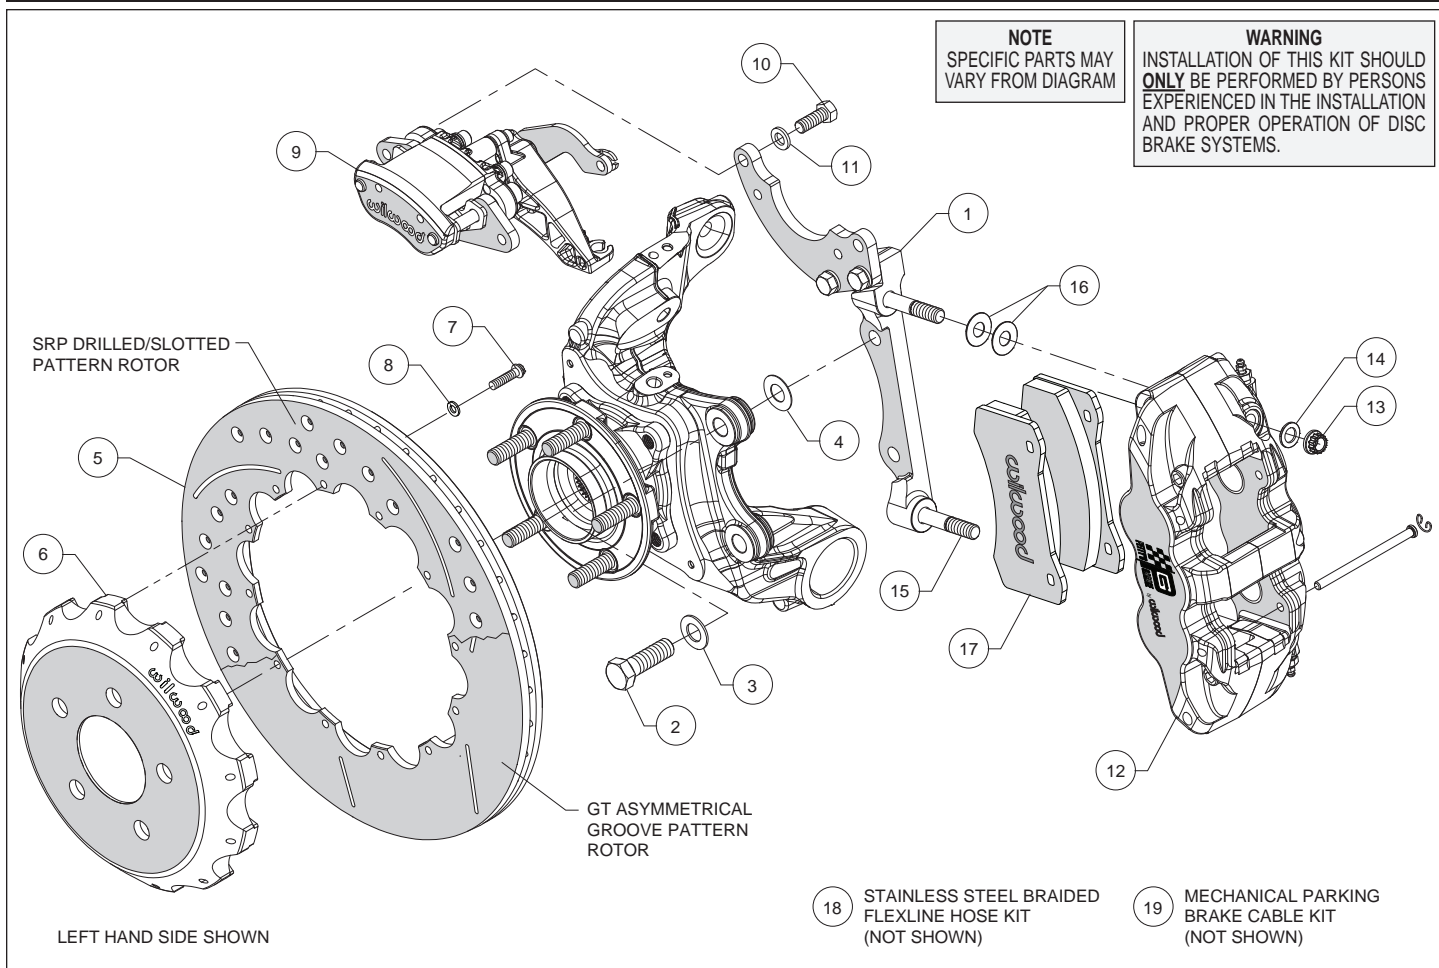
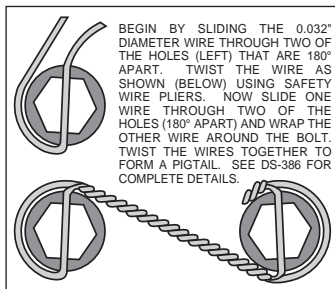

Figure 1. Typical Installation Configuration
Figure 3. Safety Wire Diagram
**Assembly Instructions** (numbers in parenthesis refer to the parts list and Figure 1 on the preceding pages):
- The caliper mount bracket (1) should initially be installed with clean, dry threads on the mounting bolts. Orient the bracket as shown in Figure 1, and Photo 1, and install using bolts (2) and washers (3). Initially place one .029" thick shim (4) on each bolt between the bracket and upright, Figure 1. Temporarily tighten the mounting bolts. **NOTE:** *The bracket must fit squarely against the mount bosses on the upright.* Inspect for interference from casting irregularities, machining ridges, burrs, etc. Later, after the caliper alignment has been checked, the mount bolts will be secured using red *Loctite*® 271.
- Orient the rotor (5) and the hat (6) as shown in Figure 1 and Photo 2. Attach rotor to hat using bolts (7) and washers (8). Using an alternating sequence, apply red *Loctite*® 271 to the threads, and torque to 155 **in-lbs**. For an added measure of security, the bolts may be safety wired using standard 0.032 inch diameter stainless steel safety wire as shown in Figure 3. Please refer to Wilwood's data sheet DS-386 (available at [www.wilwood.com/Pdf/DataSheets/ds386.pdf](http://www.wilwood.com/Pdf/DataSheets/ds386.pdf)) for complete safety wire installation instructions.
- Lubricate the caliper mounting studs (15) with lightweight oil. Initially place two .030" thick shims (16) on each stud as shown in Figure 1 and Photo 4. Mount the caliper (12) onto the bracket (1) using lock nuts (13) and washers (14), Figure 1. Temporarily tighten the lock nuts and view the rotor through the top opening of the caliper. The rotor should be centered in the caliper, Photo 5. If not, adjust by adding or subtracting shims (4) between the bracket and the mounting bosses. Always use the same amount of shims on each of the two mounting bolts. Once the caliper alignment is correct, remove the bracket mounting bolts one at a time, apply red *Loctite*® 271 to the threads, and torque to 77 ft-lb.
- Remove the two pad retaining pins from the caliper (12) by carefully popping out the pin retaining clips and sliding out the pins. Insert the brake pads (17) into the caliper from the bottom, Figure 1 and Photo 6. With the friction material facing the rotor, secure the brake pads in place with the pad retaining pins and clips, Photo 7. Reinstall the caliper onto the caliper mounting bracket and temporarily tighten the lock nuts. Check that the top of the brake pad is flush with the outside diameter of the rotor, Photo 8. If not, adjust by adding or subtracting shims (16) between the caliper and the bracket. After the caliper pad height is set, torque the caliper lock nuts (13) to 47 ft-lb.
- Orient the parking brake caliper (9), as shown in Figure 1 and Photo 9, and mount onto the top section of the caliper mounting bracket (1) using bolts (10) and washers (11), Figure 1. **NOTE:** *For this kit, the parking brake caliper marked 'right hand'*